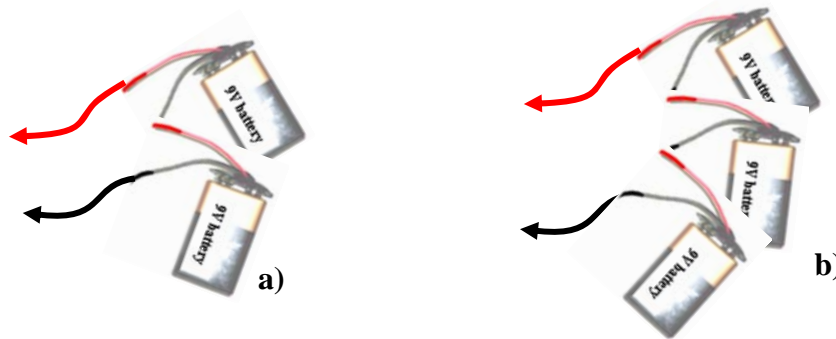

Fig. 6. a) Two batteries connected in series to form an approx. 18V source.
b) Repeat the experiment, but apply a larger voltage across the resistor. Replace the single battery by two batteries joined in series, see fig. 6 a). Record your data.